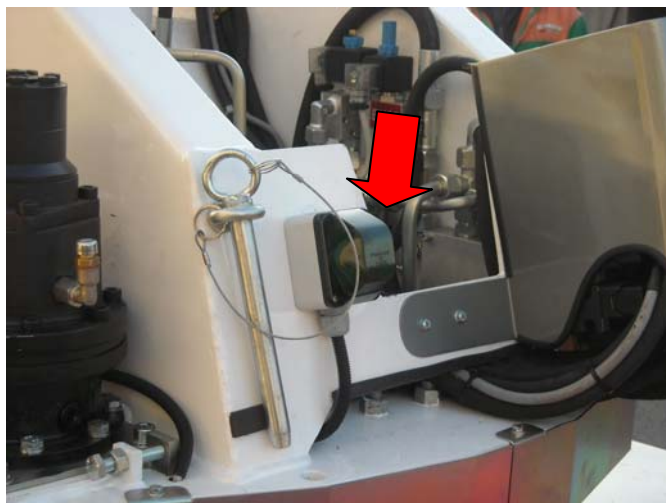

Fig. 3.17
To retract the stabiliser, check that the green light on the turntable (Fig. 3.17) is lighted on. Select the key 1 in fig. 3.2 on stabilisers symbol, act the accelerator lever part 6 in fig 3.6 and the lever 1 to stabilisers lifting direction until the complete retraction. In alternative, act manually on every stabiliser in the following way: switch pos. 10 fig. 3.6 on “Man”, act, preferably, two levers contemporarily (the two front or the two rear ones) and push the accelerator lever softly, until the complete retraction.
To go back to rest position, retract the extension completely, close the jib, straighten the cage eventually rotated, put the chassis on axle rotating the turntable and lower with the first boom until the green light switch on (Fig. 3.17).